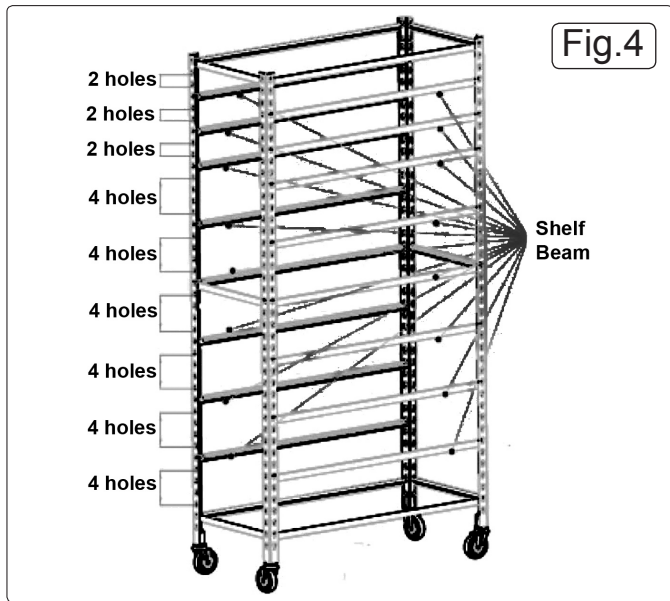
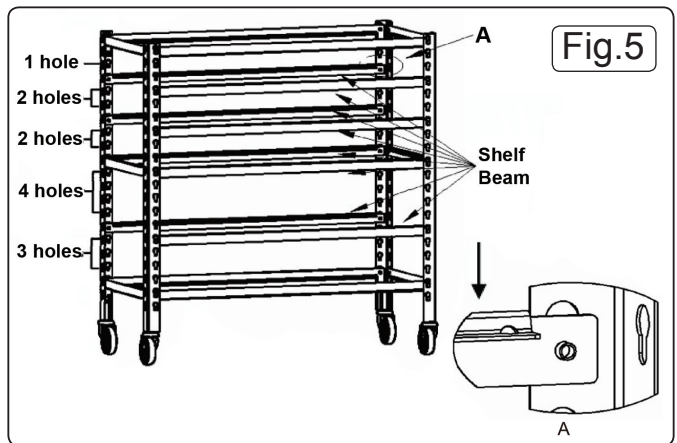

Fig.4
Fig.5
- 4.6 Insert the remaining cross beams in the frame using Fig.4 and Fig.5 to space them out correctly. Ensure the beams are the correct way around to hold the wire shelves (Fig.4, Fig.5). As before use a soft faced mallet to tap the beams into place.